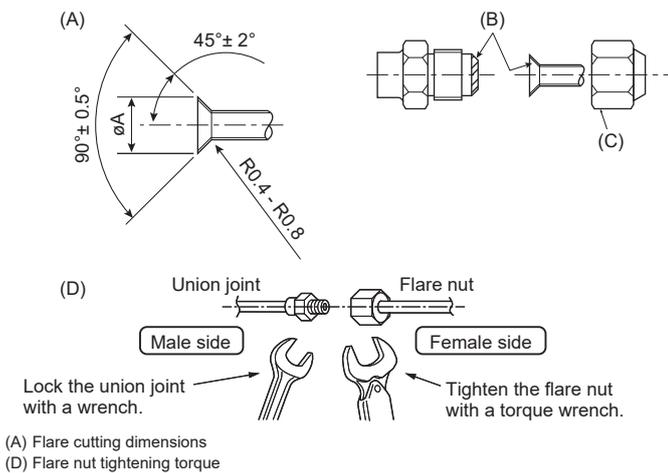

Fig. 4-1
(A)(Fig. 4-1)
(D)(Fig. 4-1)
### 4.2. Connecting pipes (Fig. 4-1)